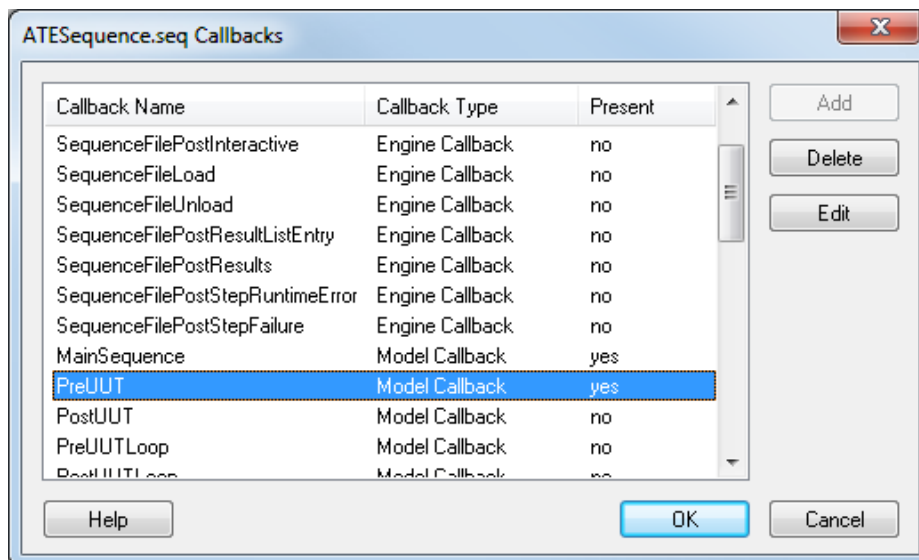

Figure 5-2. Sequence File Callbacks Dialog
- Go to **Edit»Sequence File Callbacks** to open the sequence callbacks dialog, as shown in Figure 5-2.